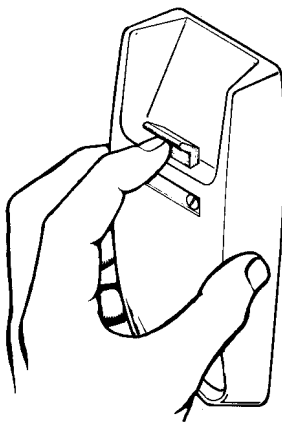

FIGURE 1. Switch Hook Plunger (up)
- b. When positioning the housing on a wall set, avoid damaging the switch hook by holding the plunger up as shown in Figure 1.